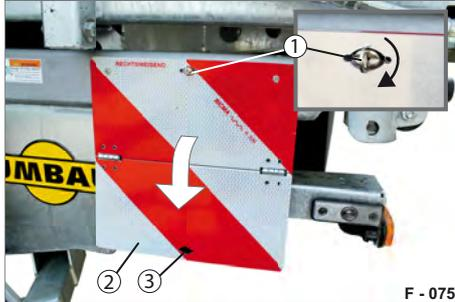

Fig. 98 Parking warning panel, aluminium plate
- ▶ Turn the screw cap (Fig. 98/1) into a horizontal position.
- ▶ Fold down the lower halves (Fig. 98/2) of the warning panels.